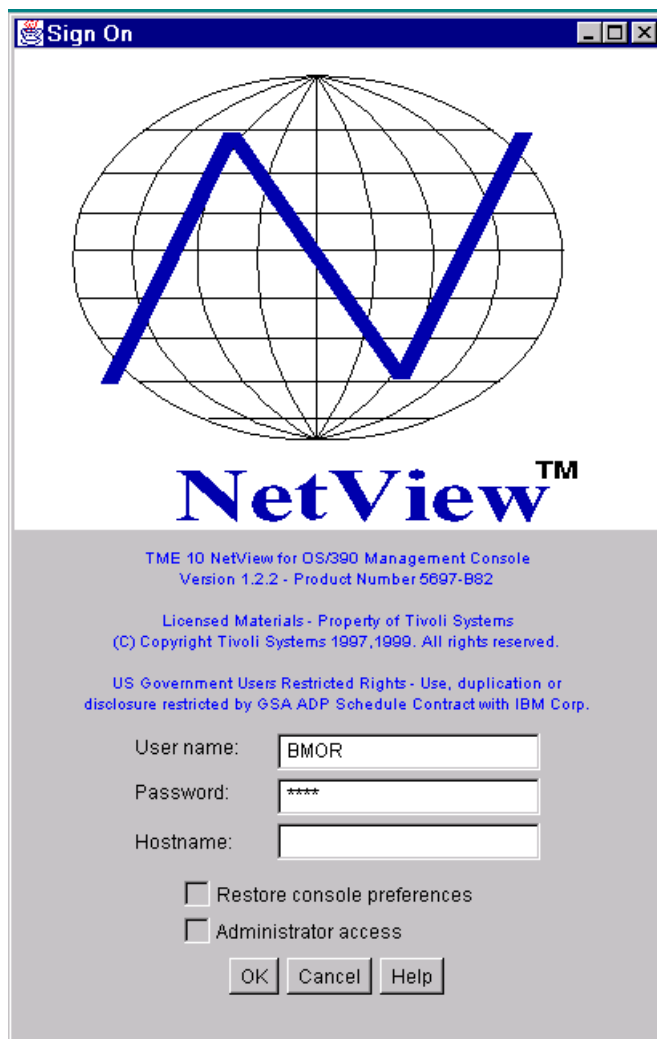

Figure 2. NetView Sign On
2. On your workstation start the *NetView Management Console* by clicking on the *NetView Management Console* icon. On the NetView **Sign On** panel (Figure 2) logon to NetView.